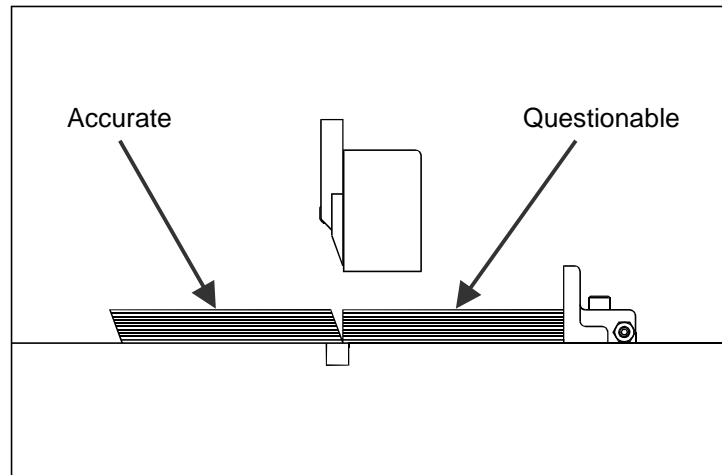

Figure 7
3. Take a sheet from the center of each lift and compare them to each other. The cutter will always space accurately between cuts (in this case the 10" and 5" cuts) whether the overall accuracy is correct or not (Figure 7, page 15). The front stack will be a true 5", but the paper left against the backgauge will not be if the backgauge position is inaccurate.